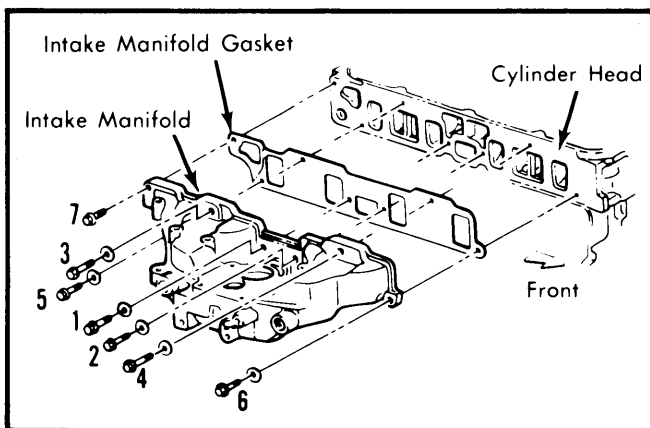

Fig. 1 Intake Manifold Tightening Sequence
2) Torque manifold-to-cylinder head bolts using torque sequence shown in *Fig. 1*. Reverse removal procedure to complete installation.